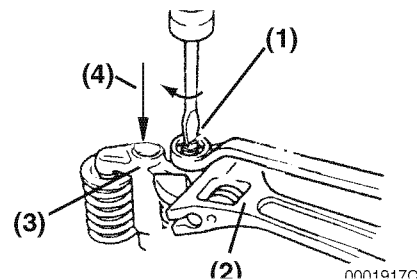
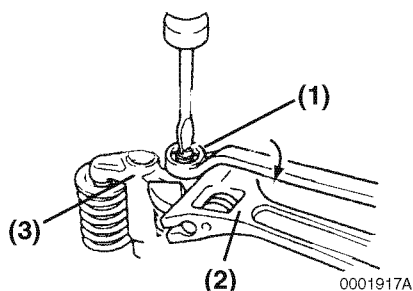
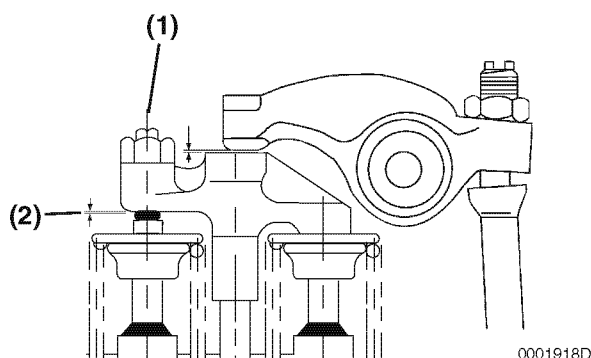

Figure 6-82
Figure 6-83
Figure 6-84
5. To assure the valve bridge contacts the rear valve, apply light, downward (Figure 6-82, (4)) finger pressure on the valve bridge (Figure 6-82, (3)), and loosen the valve bridge adjusting screw (Figure 6-82, (1)), until there is visible clearance (Figure 6-84, (2)) between the adjusting screw and the front valve.
6. To assure the valve bridge has equal contact with the front and rear valves, apply light downward (Figure 6-82, (4)) pressure on the valve bridge (Figure 6-82, (3)), adjust the valve bridge adjusting screw ((Figure 6-82, (1)), (Figure 6-84, (1))) so there is zero "0" clearance (Figure 6-84, (2)) between the adjusting screw and the front valve.
7. Tighten the lock nut (**Figure 6-83, (1)**), while holding the valve bridge (**Figure 6-83, (3)**) with a wrench (**Figure 6-83, (2)**). Verify that the valve clearance (**Figure 6-84, (2)**) is zero "0".